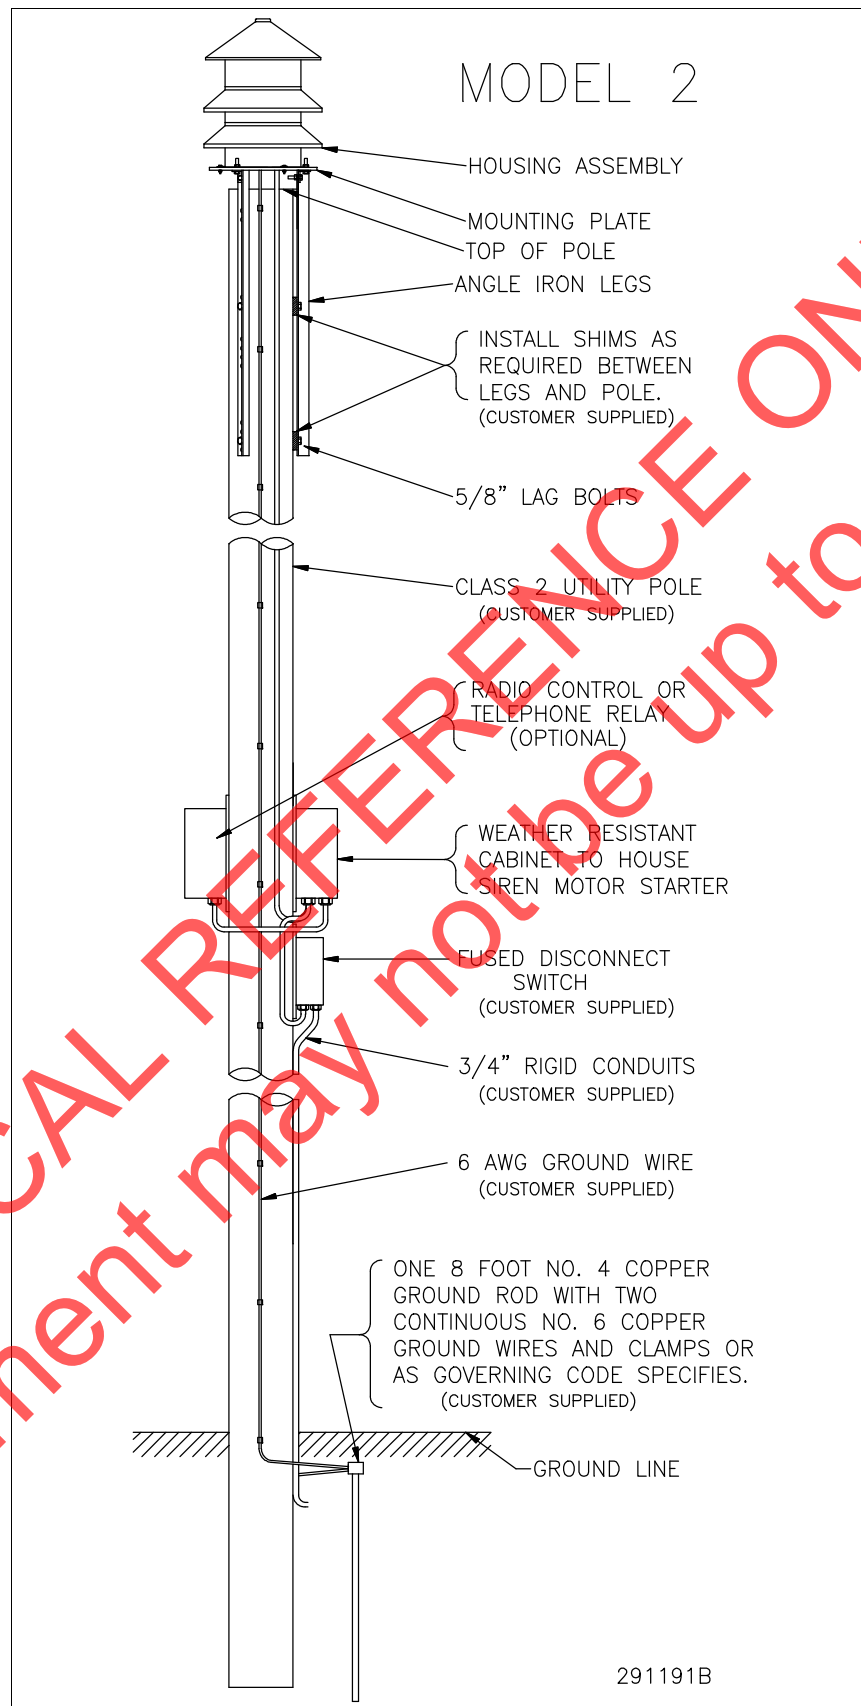

Figure 3-2. Typical Model 2 Pole-Mounted Installation
(h) Install the Model RC2W Motor Starter and a fused disconnect switch in a location on the pole that is readily accessible to service personnel, but discourages vandalism. The RC2W must be installed in a vertical position for proper operation. Install the electrical devices following NEC recommendations and local electrical codes. A suggested installation configuration is shown in figure 3-2.
3. Install conduit between the disconnect switch and the electrical power source. If the siren is installed on a utility pole, add an entrance cap to the end of the conduit, as shown in figure 3-2.